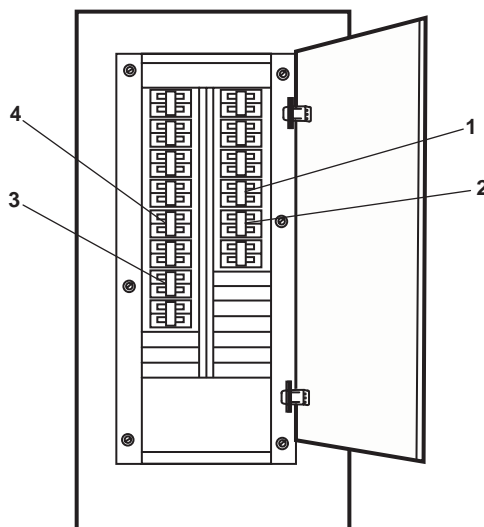

Figure 5. 120V Emergency Distribution Panel No. 1
- a. FIRE DETECTION SYSTEM. (figure 5, item 1)
- b. E.O.T. SYSTEM. (figure 5, item 2)
- c. MONITOR SYSTEM CIRCUIT. (figure 5, item 3)
- d. REMOTE PROPULSION INDICATOR PANEL. (figure 5, item 4)